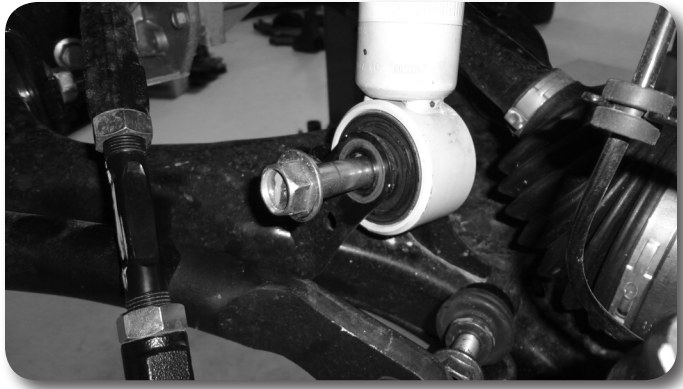

Figure 5
8. Remove the lower strut mount bolt at the lower control arm. **Figure 5** Swing the lower control arm down and out of the way. Save hardware. Be sure not to over-extend / bind and ABS, brake lines, etc.